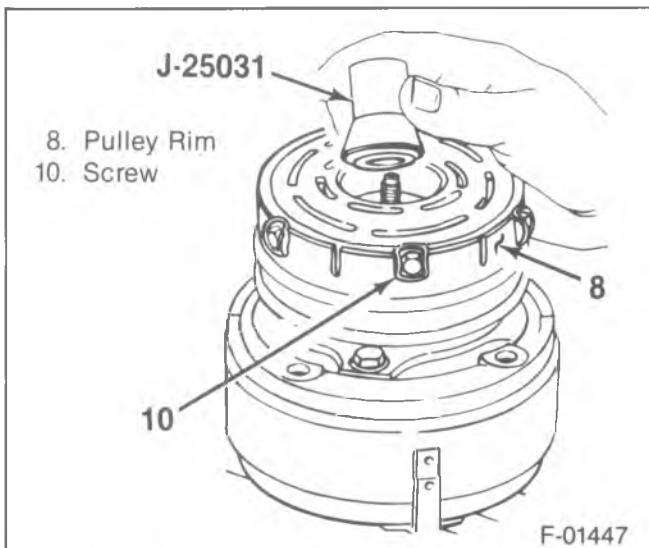
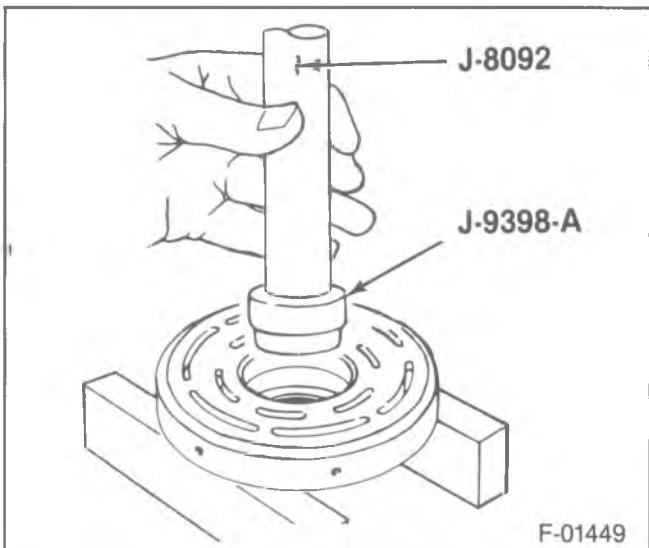

Figure 8—Installing the Rotor and Bearing Guide
Figure 10—Removing the Clutch Rotor Bearing
- If the clutch rotor and/or rotor bearing are to be replaced, bend the washers (9) away from the pulley rim mounting screws (10). Remove the six mounting screws (10) and washers (9).
- Install J-25031 guide over the compressor shaft (22) (figure 8).
3. Bearing (6) from the clutch rotor (5) with J-8092 and J-9398-A (figure 10).
3. Rotor (5) and bearing (6) assembly with J-25031 (figure 8).
- Install the J-25031 guide over the shaft (39) end.
- Engage the arms of J-25031 down into the recessed edge of the rotor hub (5).
4. Bearing (6) from the rotor hub (5) with J-9398 and J-8092 (figure 10).